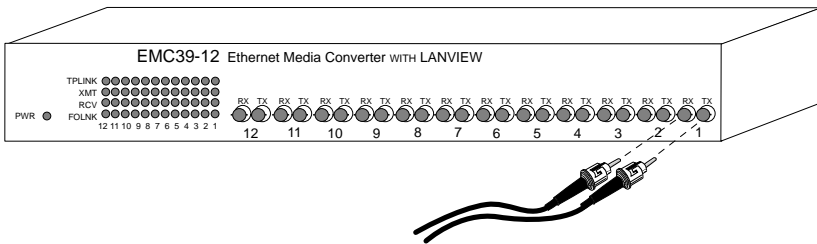

Figure 3-2 Connecting a Fiber Link to the EMC39-12
2. Attach the fiber labeled 1 to the applicable Receive port, labeled **RX**, on the module. See Figure 3-2.